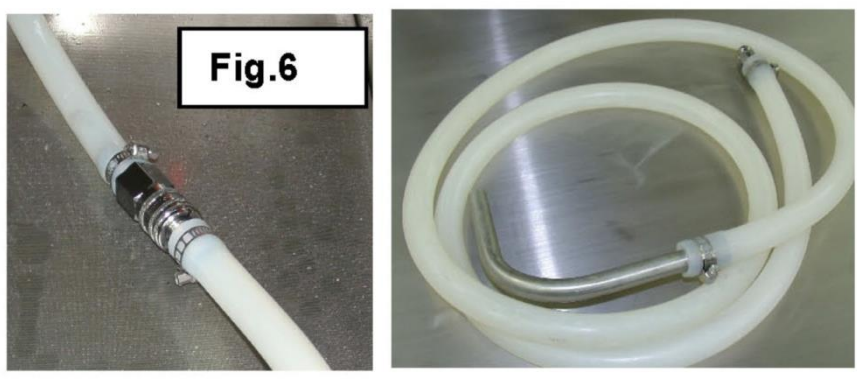

Fig.6
- 2) Connect the coupling to the used oil drain pipe (fig.6)